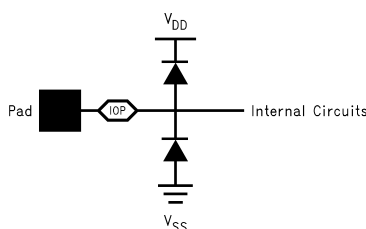

Figure 2.
(1) To ensure accuracy, it is required that $|V_{DDA} - V_{DDIO}| \leq 100$ mV and separate bypass capacitors are used at each power supply pin.
(2) With the test condition for $2 V_{P-P}$ differential input, the 10-bit LSB is 1.95 mV.
(3) Typical figures are at $T_A = T_J = 25^\circ C$ and represent most likely parametric norms. Test limits are specified to Texas Instrument's AOQL (Average Outgoing Quality Level).
(4) The analog inputs are protected as shown below. Input voltage magnitude up to 500 mV beyond the supply rails will not damage this device. However, input errors will be generated if the input goes above V_{DDA} or V_{DDIO} and below V_{SSA} or V_{SSIO} . See Figure 2
(5) The input bandwidth is limited using a capacitor between V_{IN-} and V_{IN+} .
(6) V_{COM} is a typical value, measured at room temperature. It is not specified by test. Do not load this pin.
(7) I_{DDIO} is the current consumed by the switching of the output drivers and is primarily determined by load capacitance on the output pins, the supply voltage, V_{DR} , and the rate at which the outputs are switching (which is signal dependent). $I_{DR} = V_{DR} \times (C_0 \times f_0 + C_1 \times f_1 + C_2 \times f_2 + \dots + C_{11} \times f_{11})$ where V_{DR} is the output driver supply voltage, C_n is the total load capacitance on the output pin, and f_n is the average frequency at which the pin is toggling.
(8) Power consumption includes output driver power. ($f_{IN} = 0$ MHz).
(1) The analog inputs are protected as shown below. Input voltage magnitude up to 500 mV beyond the supply rails will not damage this device. However, input errors will be generated if the input goes above V_{DDA} or V_{DDIO} and below V_{SSA} or V_{SSIO} . See Figure 2
(2) Optimum dynamic performance will be obtained by keeping the reference input in the +1.2V.
(2) Timing specifications are tested at TTL logic levels, $V_{IL} = 0.4V$ for a falling edge, and $V_{IH} = 2.4V$ for a rising edge.